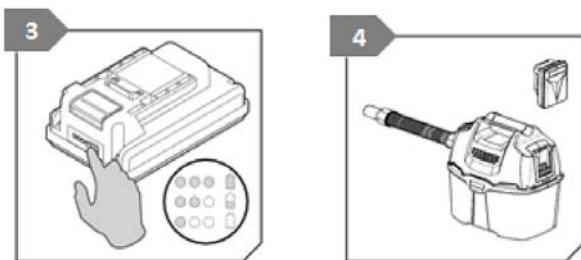

Fig. 10: Insert battery
Step 7: Place the battery (dryCAT 15 B) in the battery holder Pos.4 (Fig.10). You can check the battery capacity by pressing the button Pos.3 (Fig.10)..